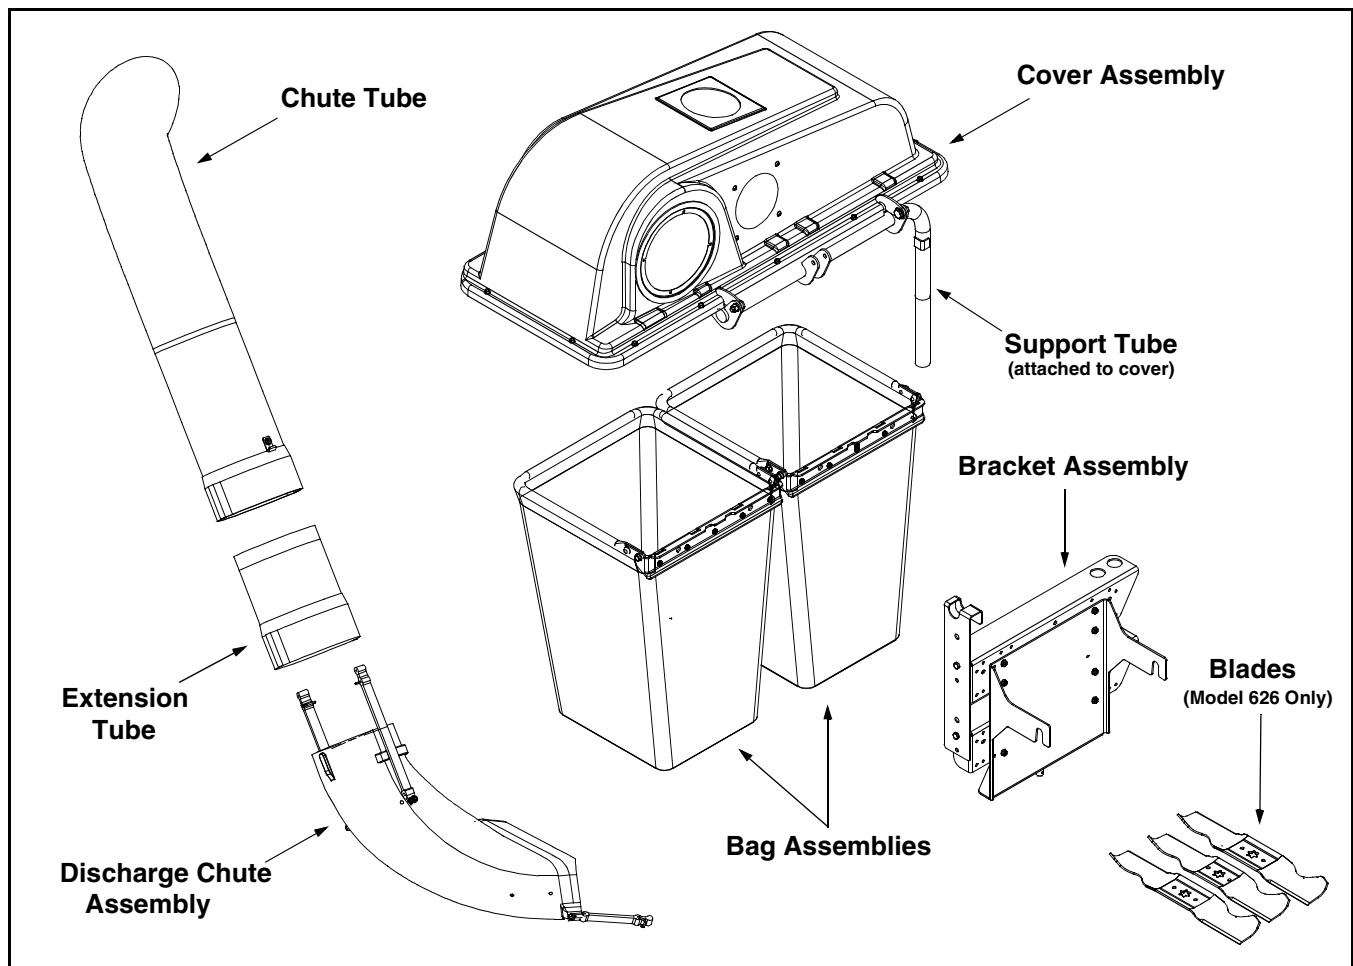
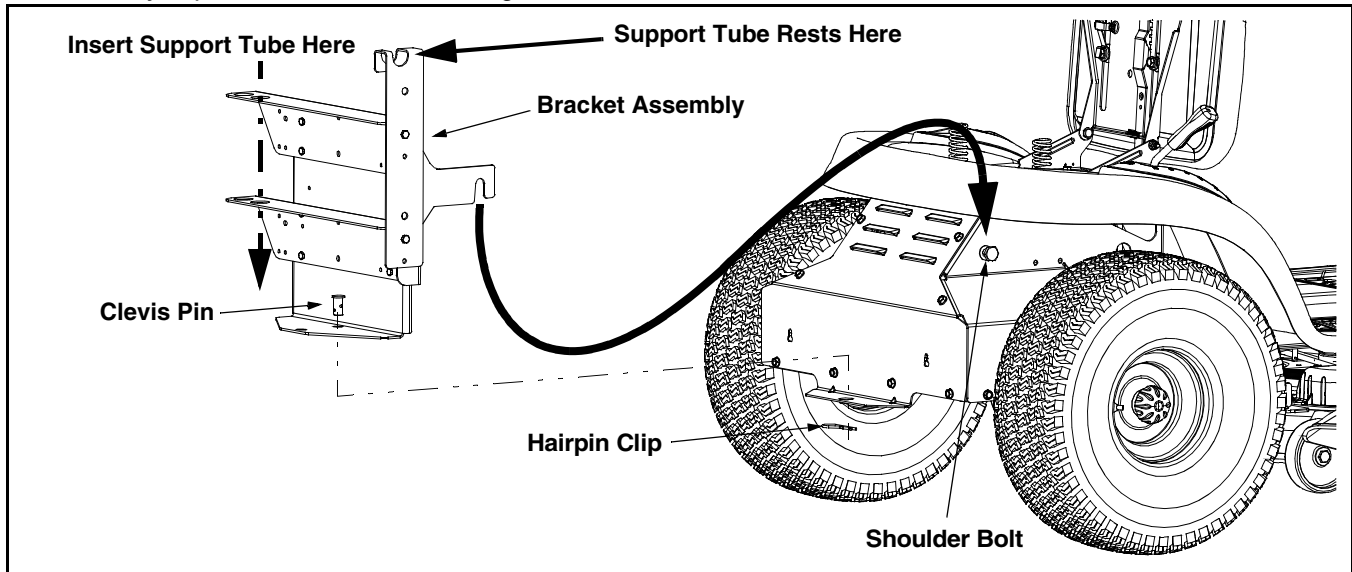

Figure 2
Figure 3
2. Remove the hairpin clip and clevis pin from the rear of the bracket assembly. Refer to Figure 3
3. Position the hooked ends of the bracket assembly to the outside of the hitch plate and over the shoulder bolts. Refer to Figure 3.
4. Reinsert the clevis pin through the aligned holes in both the bracket assembly and the hitch plate and secure with the hairpin clip. Refer to Figure 3.
1. Place the cover assembly's support tube (refer to Figure 2) in position on the rear of unit by sliding the support tube down through the holes in the left side of the bracket assembly. Use the **inside** hole on the bracket assembly regardless of what size deck your tractor is equipped with. Refer to Figure 3.
2. Place the cover assembly in position so that the support tube rests on the right side of the bracket assembly. Refer to Figure 3. Allow the plastic cover to rest in the "open" position on the back of the tractor's seat until Step 3 is completed.